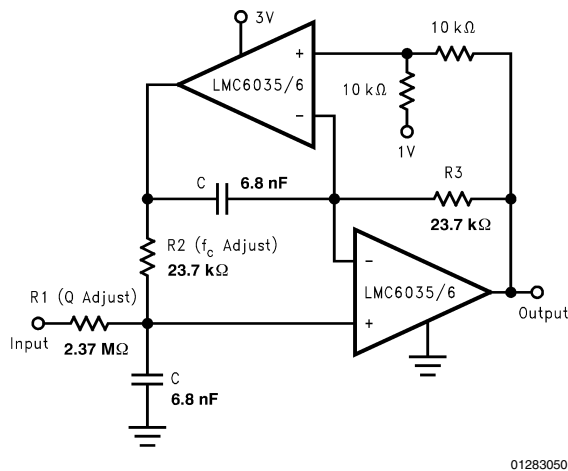

FIGURE 7. 2 Pole, 1kHz Active, Bandpass Filter
The dual amplifier bandpass (DABP) filter features the ability to independently adjust f_c and Q. In most other bandpass topologies, the f_c and Q adjustments interact with each other. The DABP filter also offers both low sensitivity to component values and high Qs. The following application of Figure 7, provides a 1kHz center frequency and a Q of 100.
1. First choose a center frequency (f_c). Figure 7 represents component values that were obtained from the following computation for a center frequency of 1kHz. $R2 = R3 = 1/(2\pi f_c C)$ Given: $f_c = 1\text{kHz}$ and $C_{(\text{chosen})} = 6.8\text{nF}$